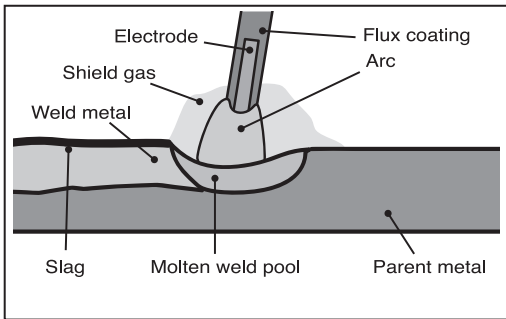

FIG. 12
8.6 ARC WELDING, FILLER ROD (ELECTRODE) SELECTION – FIG. 12